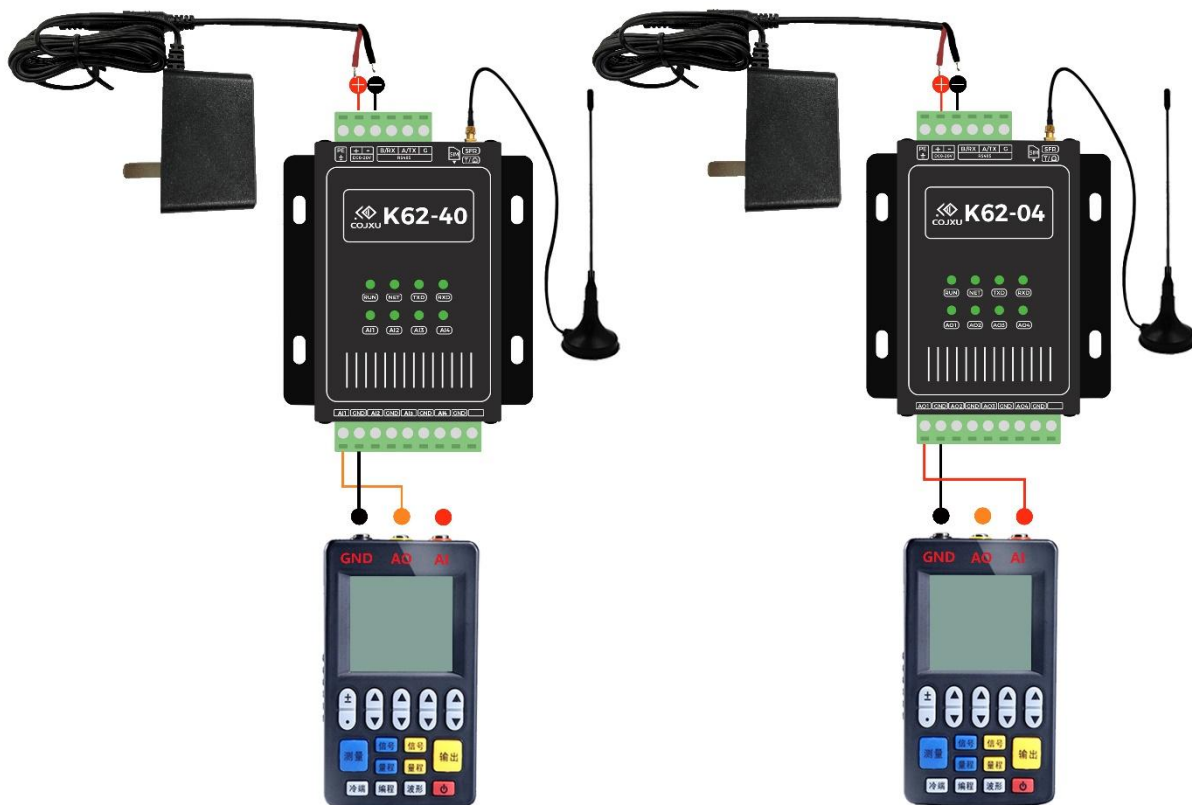

Figure 2-3 Connecting a signal generator tool (can be a sensor and multimeter)
(1) In accordance with Figure 2-3 below, connect the 0/4-20mA analog signal generator (or sensor, etc.) output port to the AI and GND interface of the K62-40 acquisition end of this product. (The specific wiring method of the sensor's two, three, four-wire system, see: "analog acquisition input and restore the output hardware connection")
(2) Notes.
(1) In accordance with Figure 2-3 below, connect the AO and GND of the reduction end of this product K62-04 to the signal receiving "positive" and "negative" terminals of the analog acquisition equipment with wires respectively (or connect to a multimeter, note that the multimeter position needs to be set to greater than 20mA current level, the "red meter pen" connected to the product "AO", "black meter pen" connected to the product "GND (")", and tighten the screws on the plug-in terminals of this product. (This part of the wiring schematic see: "analog reduction output (AO) wiring")